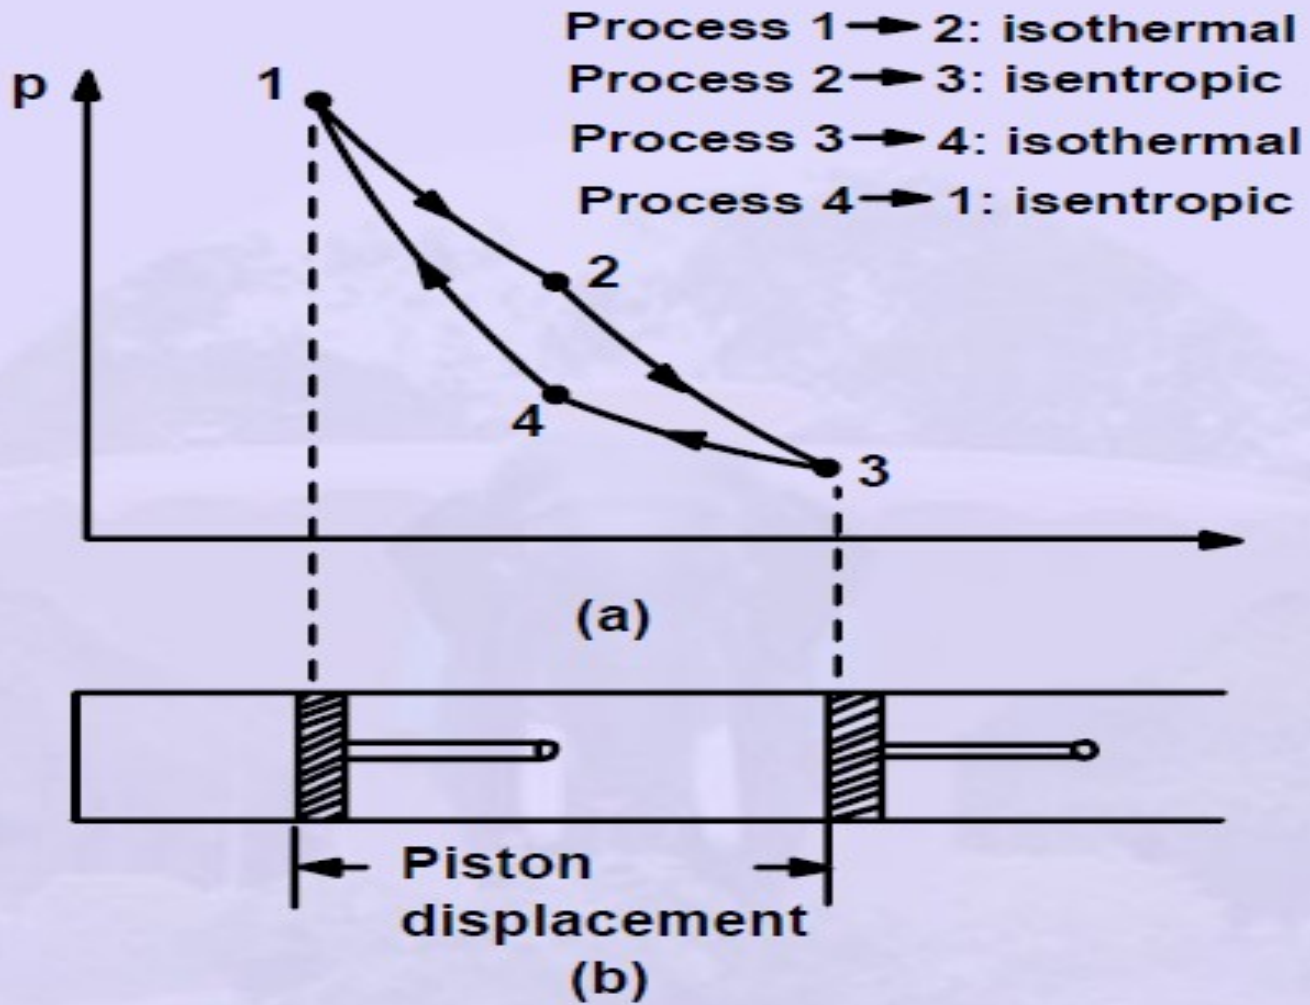

Fig.4.2. Reciprocating Carnot engine
The Carnot gas cycle could also be achieved in a cylinder-piston apparatus (a reciprocating engine) as shown in Fig. 4.2(b). The Carnot cycle on the p-v diagram is as shown in Fig. 4.2(a), in which processes 1-2 and 3-4 are isothermal while processes 2-3 and 4-1 are isentropic. We know that the Carnot cycle efficiency is given by the expression.
- The Carnot cycle has a low mean effective pressure because of its very low work output. Hence, one of the modified forms of the cycle to produce higher mean effective pressure whilst theoretically achieving full Carnot cycle efficiency is the Stirling cycle. It consists of two isothermal and two constant volume processes. The heat rejection and addition take place at constant temperature. The p-v and T-s diagrams for the Stirling cycle are shown in Fig.4.2.